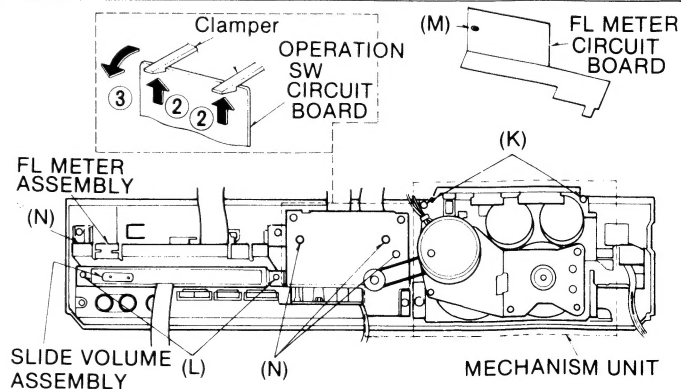

Fig. 7
| 5 | 1 → 4 → 5 | FL meter circuit | <ul style="list-style-type: none"> • 1 screw(M) • 4 screws(N) • As shown in fig. 7, raise the clumper in the direction of arrow ② and remove the FL meter circuit in the direction of arrow ③. | 7 7 7 |